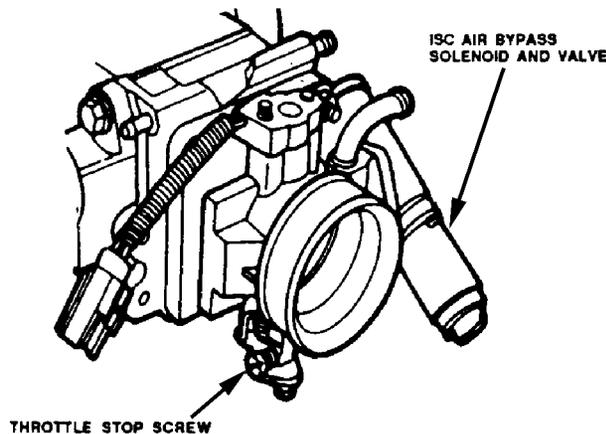

Figure F050-18
3. Place the transmission in drive (AT) or neutral (MT) and let idle speed stabilize.
4. Turn the throttle stop screw (Figure F050-18), to adjust idle speed to specifications:
4. Tighten the screw (Figure F050-18 on page F170), so that it touches the feeler gauge; then turn it another 1-1/2 turns (1988–90 HO engine) or 1-7/8 turns (base engine).
6. For automatic overdrive (AOD) transmission, check throttle valve (TV) cable adjustment.
1. Place the transmission in park (AT) or neutral (MT).
4. Tighten the screw (Figure F050-18 on page F170), so that it touches the feeler gauge.
6. With automatic overdrive (AOD) transmission, check throttle valve (TV) cable adjustment.